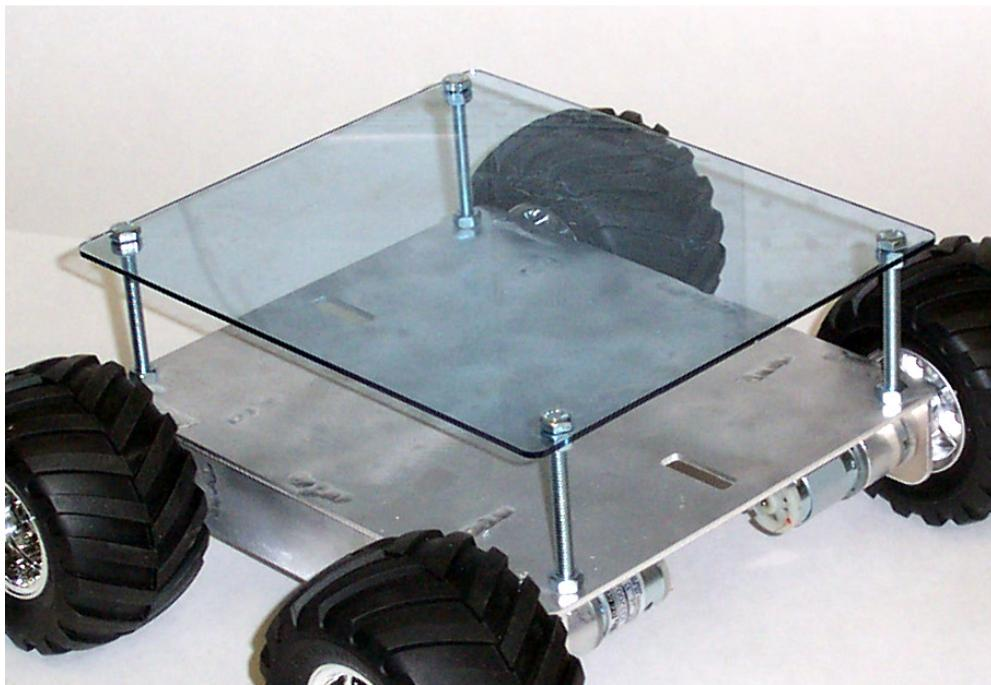

Figure 18: Mini ATR Top Cover Assembly
5. If you purchased the acrylic base, it can be attached as shown in Figure 18 using the hex bolts and nuts as shown.